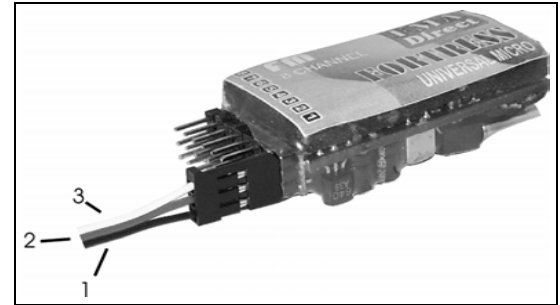

Figure 1
**WARNING: IF YOU INTEND TO INTERFACE AIRTRONICS SERVOS THAT USE "OLD STYLE" (PRE-"Z TYPE") AIRTRONICS CONNECTORS TO THE FORTRESS MICRO, YOU MUST UPDATE THE CONNECTOR TO THE CURRENT INDUSTRY STANDARD POLARITY (SEE FIGURE 1) AND PROPER INDUSTRY STANDARD SHELL THICKNESS. YOU MAY READILY CONVERT YOUR EXISTING "OLD STYLE" AIRTRONICS CONNECTORS TO CURRENT STANDARDS 1) BY INSTALLING APPROPRIATE ADAPTERS OR 2) BY REMOVING THE OLD CONNECTORS AND PINS AND REPLACING THEM WITH FMA PART NUMBER SEASSYJ. EACH SEASSYJ CONTAINS ONE JR COMPATIBLE MALE SHELL AND 3 FEMALE PINS. YOU WILL NEED TO CRIMP THE PINS AND SOLDER THEM TO THE WIRES OF YOUR EXISTING SERVO AND PLUG THEM INTO THE SHELL PROVIDED. MAKE CERTAIN THAT THE RED WIRE (+V) GOES TO THE CENTER PIN AS ILLUSTRATED IN FIGURE 1. FMA WILL NOT ACCEPT RESPONSIBILITY FOR ANY ATTEMPT TO USE "OLD STYLE" AIRTRONICS CONNECTORS THAT DO NOT HAVE THE POLARITY CHANGED TO INDUSTRY STANDARDS.**
4. When hooking up servos to your receiver, use TABLE 1 and FIGURE 1 to check its plug wire color orientation. Note: with the receiver sitting label side up, the signal lead (marked #3 in FIGURE 1 and color coded as in TABLE 1) must match up to the pin closest to the label side of the receiver. No damage will occur by plugging a servo in backwards (reversing shell 180°), but the servo will not operate. Your Fortress